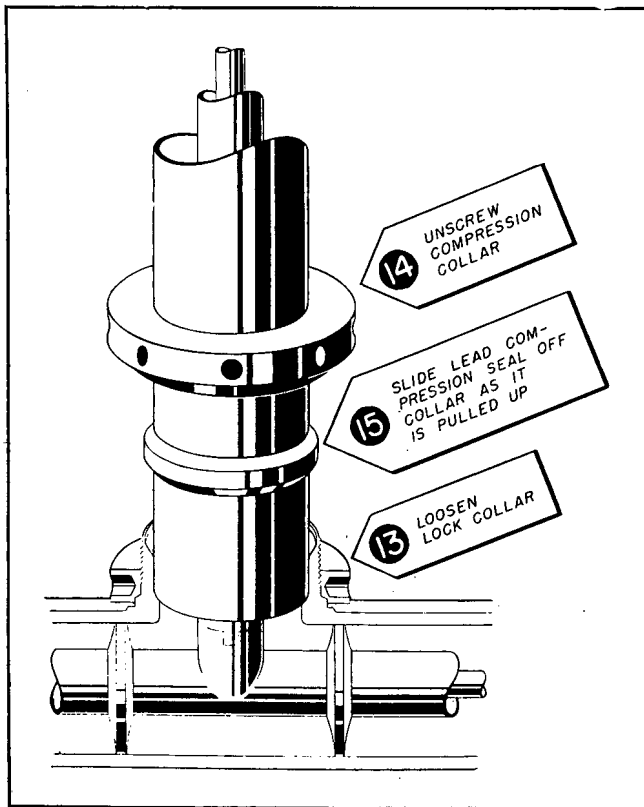

Figure 7-95. Preparation for Removal of Outer Conductor
(7) It should not be necessary to remove the outer conductor from the pivot post except in unusual circumstances where the line suffers damage or whenever the Pedestal is completely disassembled for a general overhaul. The steps required to remove the outer conductor are shown in Fig. 7-95. A special spanner wrench is supplied which must be used to remove the compression collar shown in step 14. The parts shown in Fig. 7-95 are located at the T-joint in the base of the Pedestal. The lock collar shown in step 13 must be loosened first. This permits the compression collar to be removed. In order to slide the outer conductor out through the top of the Pedestal, it is necessary to slip the compression seal off the outer